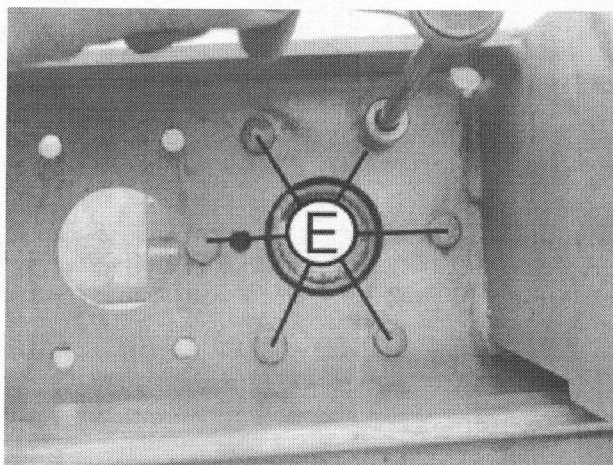

Fig. 025
9. Loosen the 6 retaining screws (E) from the gear and pull down the geared motor completely (Fig. 025).
10. Assembly of the geared motor in reverse order. Ensure that the special locking washers are installed again when fixing the gear. The tightening torque for the screws (E) is XX Nm (Fig. 025).